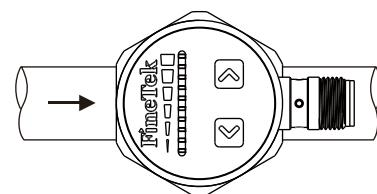

Fig. 4
5. Must secure the mounting is firmly locked to avoid the danger of liquid leakage from the pipe. To ensure the optimal sensitivity and response time, it should be installed in the direction as shown in Figure 4